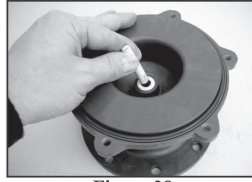

Figure 28
5. Install o-ring (item 3) in groove in the barrier.
6. Install impeller shaft (item 6) into barrier by aligning the flats on the shaft with the flats in the barrier. Make sure it is completely seated. See figure 28.